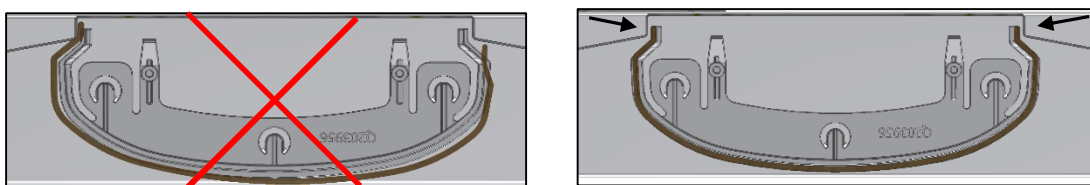

Figure 4: Cross section of lens installed onto fixture
**CAUTION:** Lens is not fully installed if Click is not heard. Squeeze the lens end near each latch as you push in to hear the "Click" (see Figure 4).